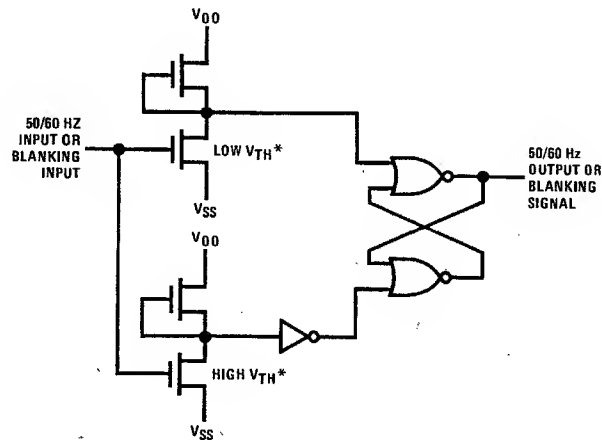

FIGURE 3. 50/60 or Blanking Input Shaping Circuits
**50 or 60 Hz Input:** A shaping circuit (*Figure 3*) is provided to square the 50 or 60 Hz input. This circuit allows use of a filtered sinewave input. The circuit is a Schmitt trigger that is designed to provide about 6V of hysteresis. A simple RC filter such as shown in *Figure 5*, is recommended in order to remove possible line-voltage transients that could either cause the clock to gain time or damage the device. The shaper output drives a counter chain which performs the timekeeping function.
**Blanking Control Inputs:** Connecting this Schmitt Trigger input to  $V_{DD}$  places all display drivers in a non-conducting, high-impedance state, thereby inhibiting the display. See *Figures 3 and 4*. Conversely  $V_{SS}$  applied to this input enables the display. This input does not have internal pull-down device.